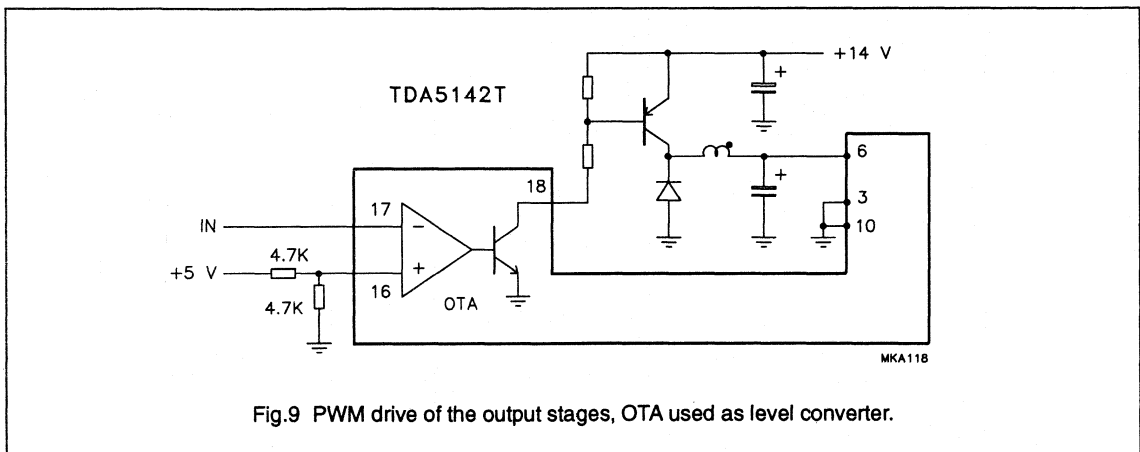

Fig.9 PWM drive of the output stages, OTA used as level converter.
- With digital or PWM control an external switching transistor is necessary. The OTA can make the level translation and drive the power transistor (see Fig.9).